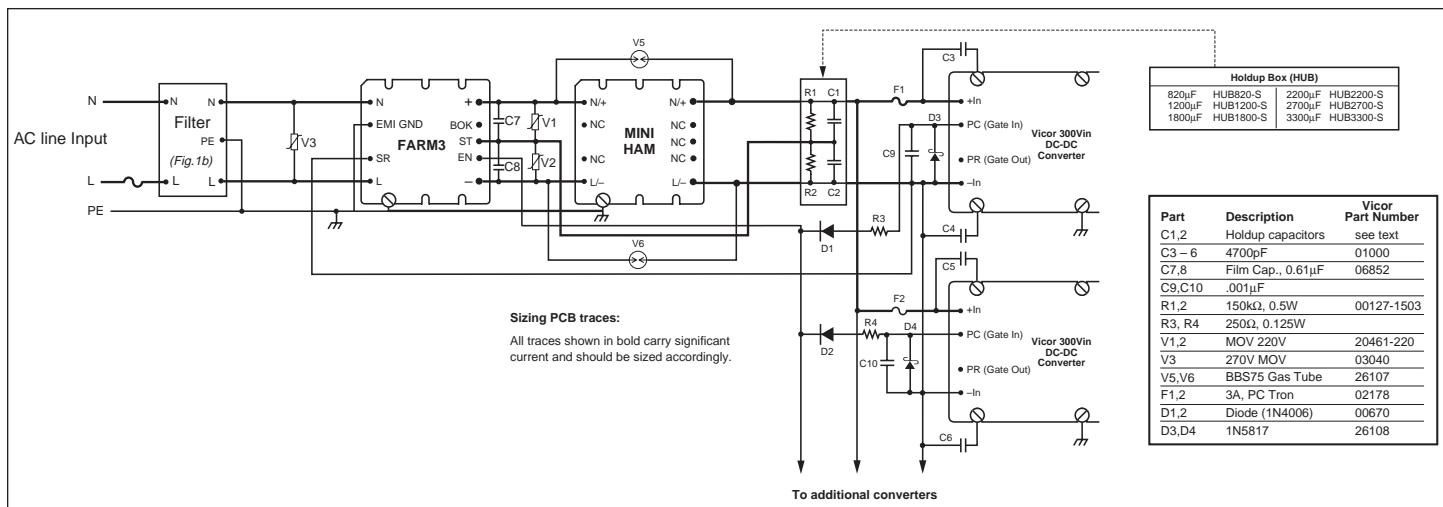

Figure 1a—Offline Power Supply Configuration
Electrical characteristics apply over the full operating range of input voltage, output power and baseplate temperature, unless otherwise specified. All temperatures refer to the operating temperature at the center of the baseplate. Performance specifications are based on the ENMods system as shown in Figure 1a.
■ ELECTROMAGNETIC COMPATIBILITY (configured as illustrated in Figures 1a and 1b)
The ENMods system provides transient/surge immunity, harmonic current attenuation and EMI filtering, in addition to all of the power switching and control circuitry necessary for autoranging rectification, inrush current limiting, and overvoltage protection. Converter enable and status functions for orderly power up/down control or sequencing are also provided. To complete the AC front end configuration, the user only needs to add hold-up capacitors, a simple EMI filter, and a few discrete components (Fig 1A).
(see Figures 1a, 18a and 18b)
(see Figures 1a, 18a, and 18b)
It should be noted that the series combination ($C1, C2$, see Figure 1a) requires each capacitor to be twice the calculated value, but the required voltage rating of each capacitor is reduced to 200 V.